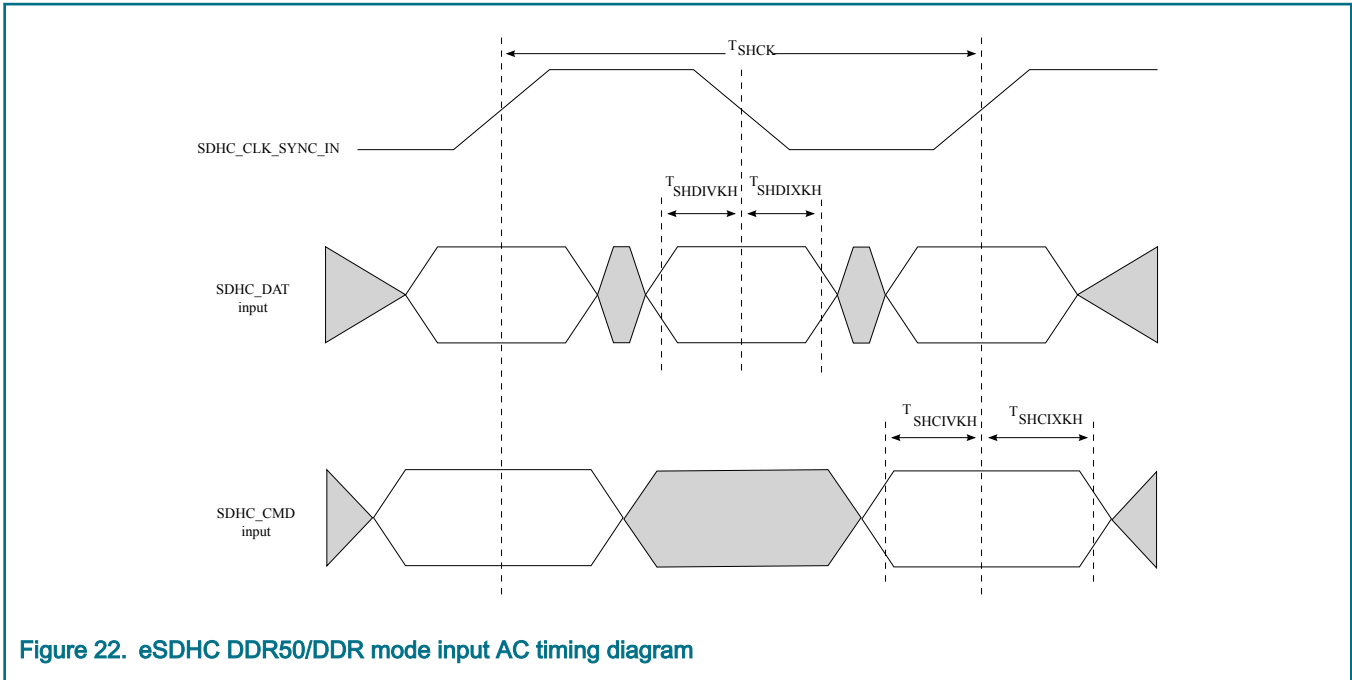
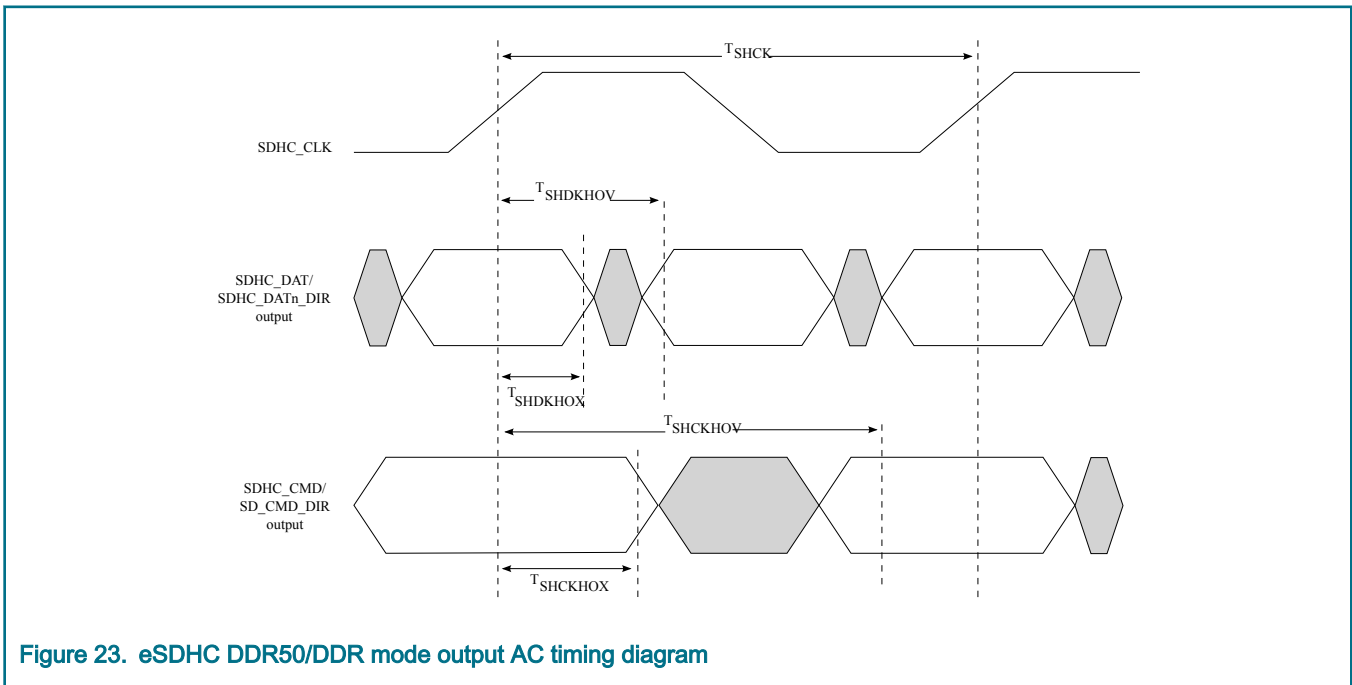

Figure 22. eSDHC DDR50/DDR mode input AC timing diagram
Figure 23. eSDHC DDR50/DDR mode output AC timing diagram
3. The symbols used for timing specifications herein follow the pattern of t_{(first two letters of functional block)(signal)(state) (reference)(state)} for inputs and t_{(first two letters of functional block)(reference)(state)(signal)(state)} for outputs. For example, t_{SHCKHOX} symbolizes eSDHC highspeed mode device timing (SH) clock reference (K) going to the high (H) state, with respect to the output (O) reaching the invalid state (X) or output hold time. Note that in general, the clock reference symbol is based on five letters representing the clock of a particular functional. For rise and fall times, the latter convention is used with the appropriate letter: R (rise) or F (fall).
4. See Figure 22.
5. See Figure 23.
| <p>1. C_L = C_{BUS} + C_{HOST} + C_{CARD} ≤ 20 pF for MMC, ≤ 25pF for Input Data of DDR50, ≤ 30pF for Input CMD of DDR50.</p> <p>2. The symbols used for timing specifications herein follow the pattern of t_{(first two letters of functional block)(signal)(state) (reference)(state)} for inputs and t_{(first two letters of functional block)(reference)(state)(signal)(state)} for outputs. For example, t_{SHKHGX} symbolizes eSDHC highspeed mode device timing (SH) clock reference (K) going to the high (H) state, with respect to the output (O) reaching the invalid state (X) or output hold time. Note that in general, the clock reference symbol is based on five letters representing the clock of a particular functional. For rise and fall times, the latter convention is used with the appropriate letter: R (rise) or F (fall).</p> <p>3. See Figure 22.</p> <p>4. See Figure 23.</p> <p>5. Board skew: -0.2 to 0.2 ns</p> | | | | | |